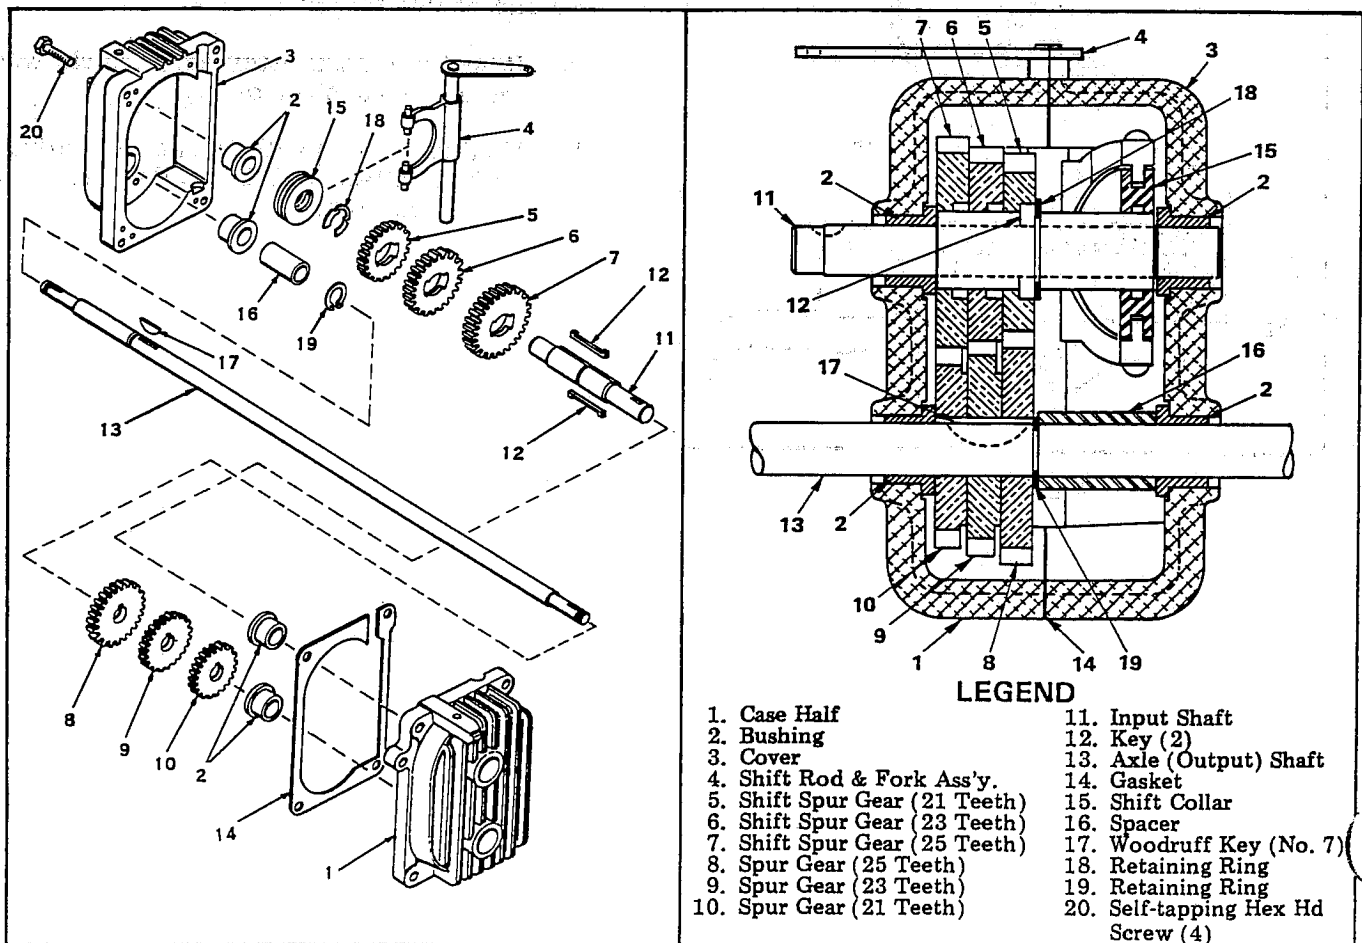

FIGURE 2-34. EXPLODED AND CROSS SECTIONAL VIEW
NOTE: Number in parentheses refer to Figure 2-34.
2. Shift the shifter lever to first gear position (Fig. 2-34), then turn input shaft; output should turn slowly.